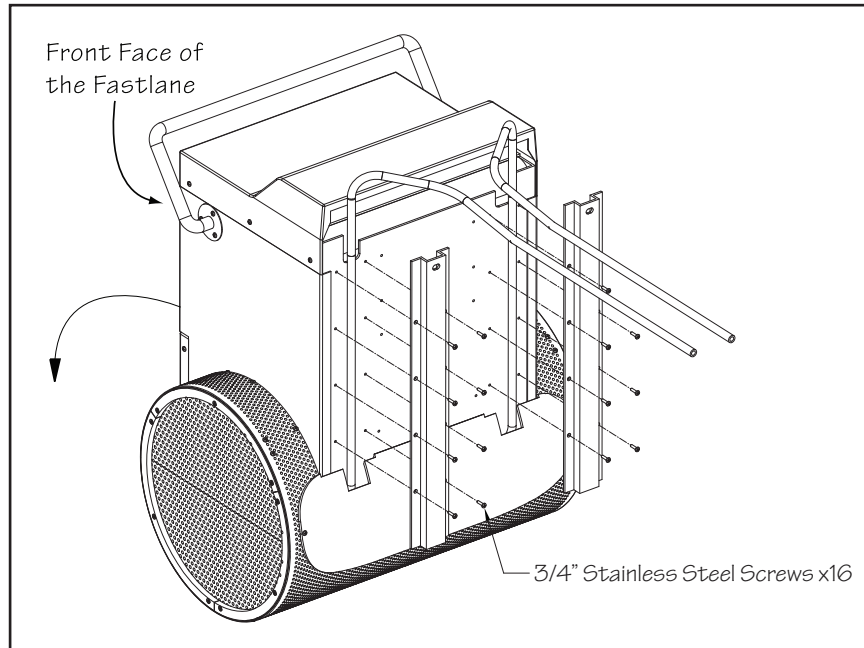

Fig. 6.5
- 6.7 **Carefully lay the Fastlane onto its front face.** Run the hydraulic hoses up the back of the upper housing. The two hat channels will be placed over the hydraulic hoses. Make sure that the mounting hole in the end of the hat channel is facing up and that the bottom of the hat channel has been inserted into the notch in the cylindrical base. Use the provided 3/4" stainless steel screws to attach the hat channels to the upper housing. There will be eight screws per hat channel (Fig 6.5).